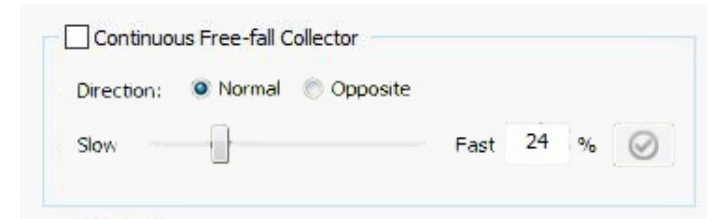

Figure 7-7 Free-Fall Continuous Collector checkbox
8. At the printer front end, select the **Free-fall Continuous Collector** check box, Figure 7-7.